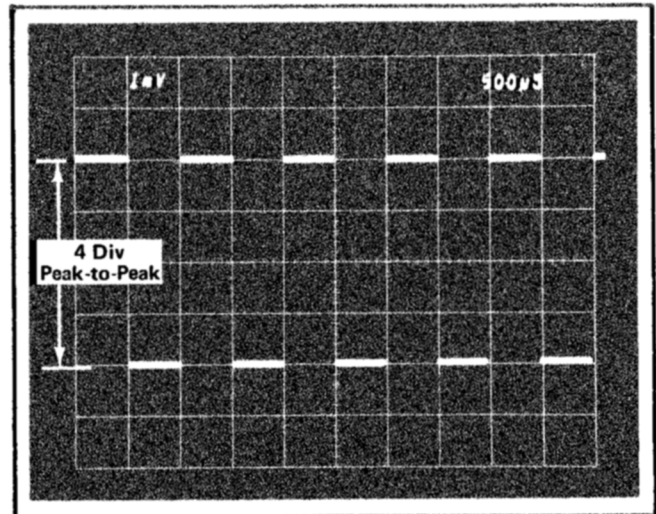

Fig. 5-3. Waveform display obtained showing correct vertical gain at 1 mV/div. Sweep rate 0.5 ms/div.
- c. CHECK—CRT display for exactly 4 divisions of vertical deflection (see Fig. 5-3).